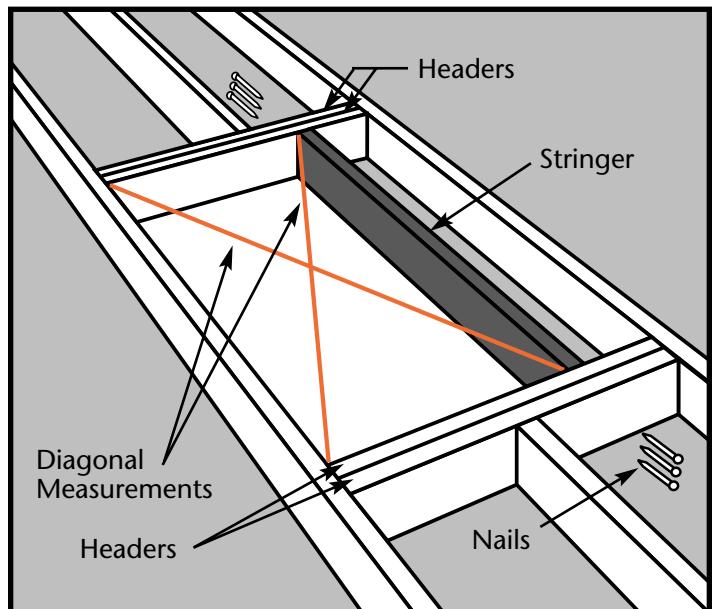

Figure 19
- STEP 4.** Position the stringer(s) along the unframed side(s) of your location (Figure 19). Check that the inside dimensions of the frame are the same as the rough opening shown on the box or in Table 2 on page 6.
- STEP 5.** To attach the stringer(s) to the headers, use nails that are long enough to go through both headers and into the stringer at least one inch. In most cases, a 4 inch nail (20d) will be long enough. Square the stringer(s) to the headers at one end and drive 3 nails through the headers and into the stringer. Check for squareness, then nail the other end. Check the rough opening for squareness by measuring across the diagonals. The two measurements should be within 1/8" to be considered square (Figure 19).